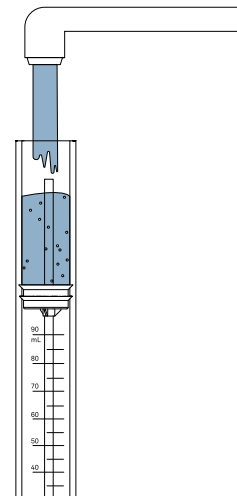

Figure 1 Fill mariotte chamber
2. Fill the mariotte chamber three-quarters full with water (Figure 1).